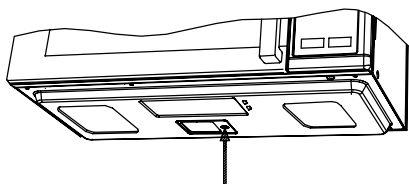

FIGURE 1
2. Remove screw on right side of light compartment cover and lower cover until it stops. (See Figures 1 and 2.)